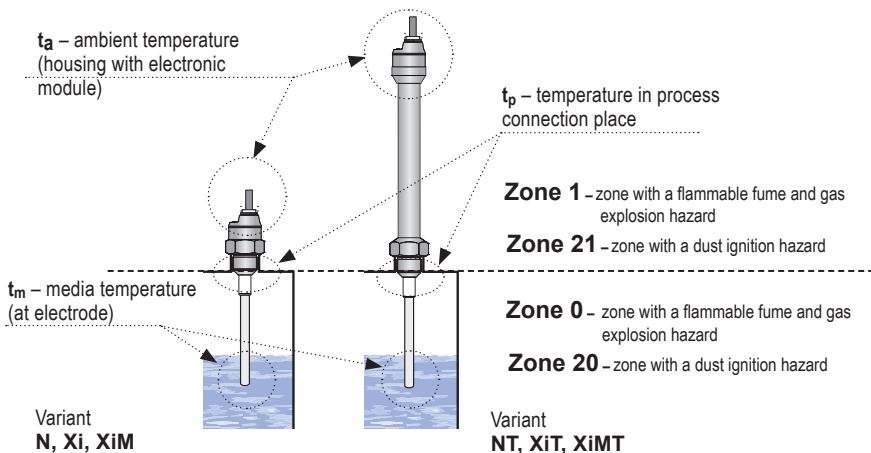

Fig. 9: Illustration of areas for temperature measurement and explosive zones
**The level gauge must be installed in a vertical position and must not exceed any of the specified temperature ranges (tp, tm or ta). These temperatures are illustrated in Fig. 9.**